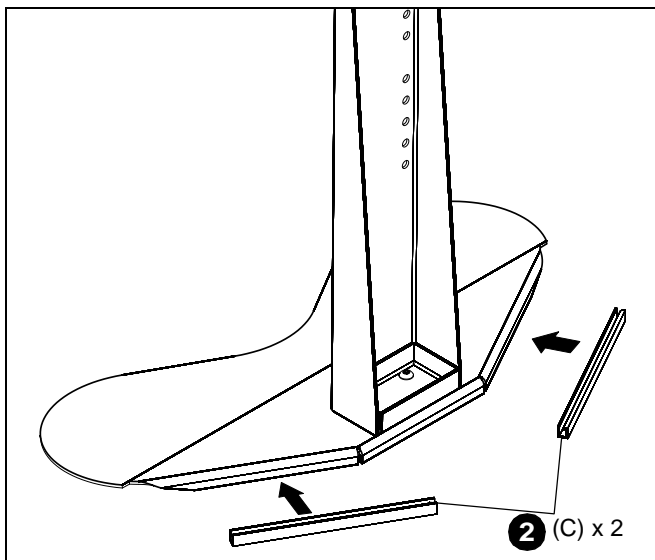

Figure 2
2. Attach edge trim pieces (C) to the base assembly (D). See Figure 2.